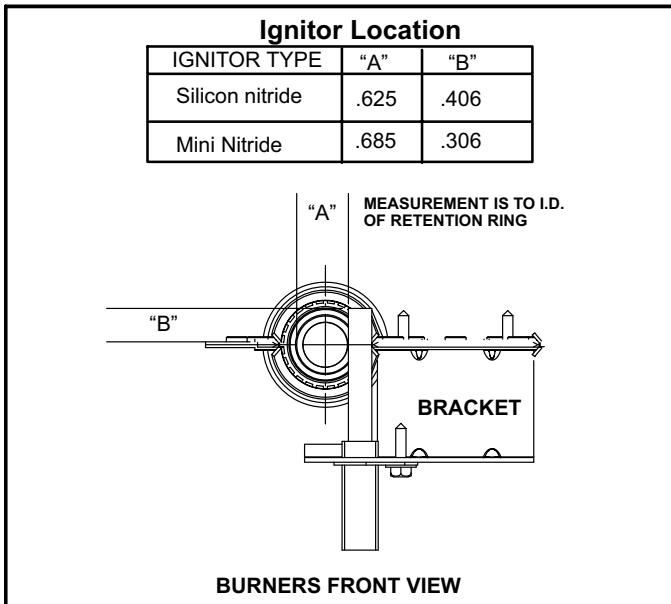
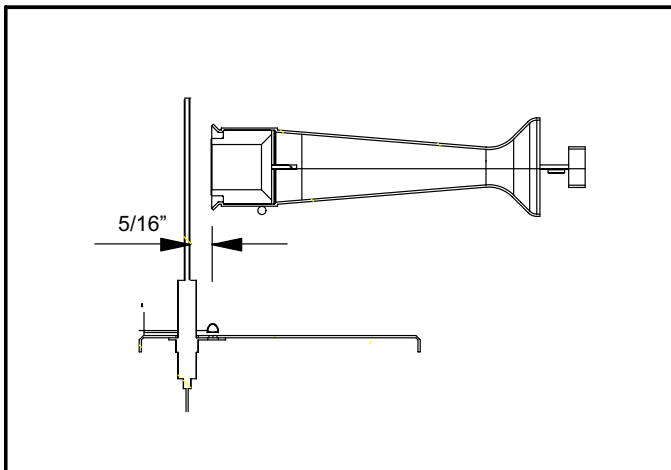

FIGURE 9
FIGURE 10
The ignition control system consists of an integrated control board (figure 8 with control terminal designations in table 7), ignitor (figure 9) and sensor (figure 10). The control board and ignitor work in combination to ensure furnace ignition and ignitor durability. The control board controls all major furnace operations. The control board also features two LED lights (DS1 red and DS2 green) for troubleshooting and two accessory terminals rated at (1) one amp. The control board also features a (3) amp fuse for overcurrent protection. Tables 5 and 6 show jack plug terminal designations. See table 4 for troubleshooting diagnostic codes. The mini-nitride ignitor is made from a non-porous, high strength proprietary ceramic material that provides long life and trouble free maintenance. The control board continuously monitors line voltage and maintains the ignitor power at a consistent level to provide proper lighting and maximum ignitor life.
### 1. Ignitor (Figure 9)
## 2. Flame Sensor (Figure 10)